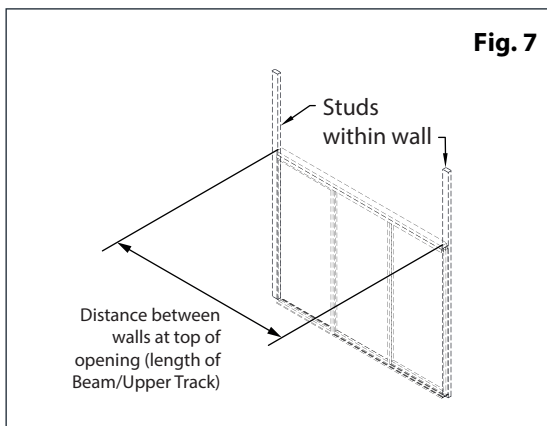

Fig. 7
1. Measure the space from wall to wall at the location of your room divider, directly under your installed L-Connectors. See Figure 7.